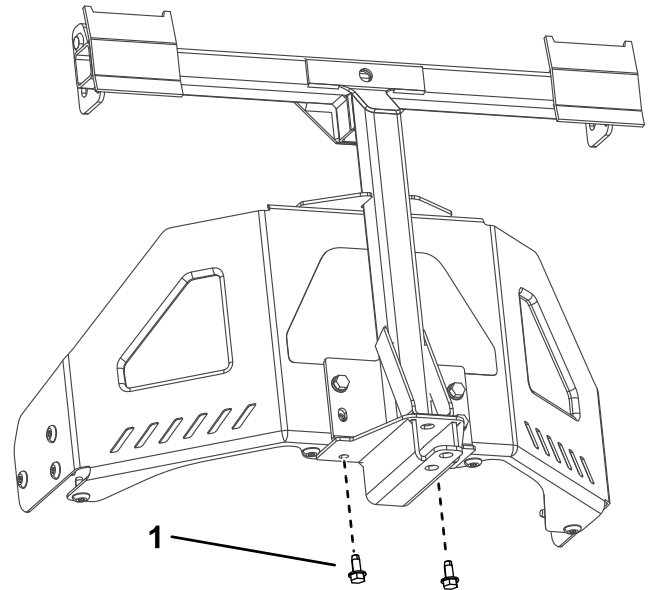

Figure 9
3. Secure the pivot frame to the bottom of the machine frame using 2 self-tapping screws (5/16 x 3/4 inch) as shown in Figure 9.